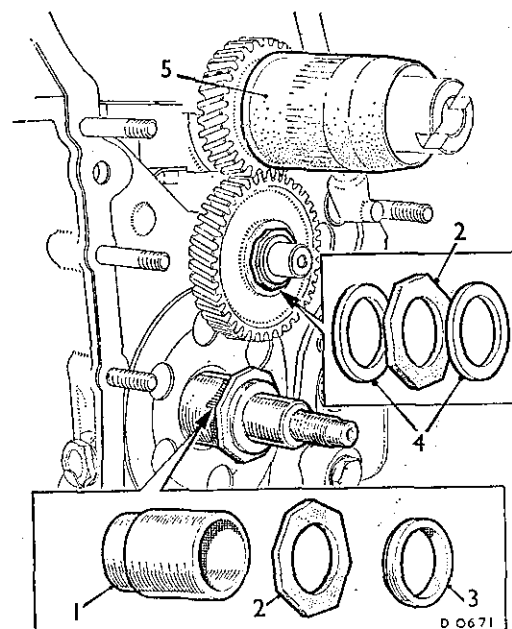

Fig. Aa.17
- (32) Fit Service tool adaptor 18G 1089 A over the input shaft. Use Service tool 18G 1089/1 to cut a dental wax washer, and fit the wax washer with Service tool 18G 1089/1 over the input shaft (see Fig. Aa.17).
- (33) Carry out items (25) and (26).
- (34) Fit a new converter housing joint washer and ensure that NO shims are sticking to the input gear bearing. Lubricate the oil seal lip, refit the housing and tighten to the torque figure given in